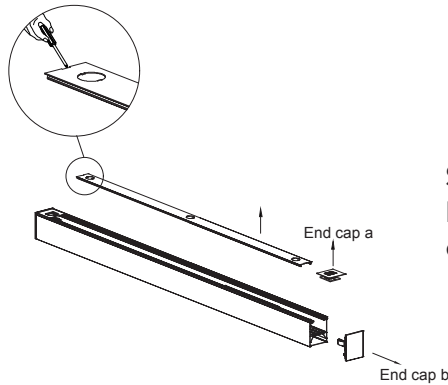

Figure 1
Step 1 : Use a screwdriver to lift the top cover ; Remove the magnetic end cap a and the spring end cap b by hand, as shown the left Figure 1